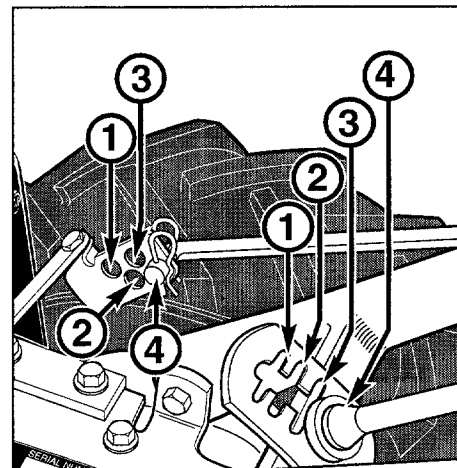

Figure 2-8: Numbered settings for handlebar height slots and clutch swivel plate holes.
3. There are four numbered holes in the clutch swivel plate (see Figure 2-8) and four numbered slots in the curved height adjustment bracket. For correct operation of the Forward Clutch rod, the numbered hole used for the Forward Clutch rod must match with the numbered slot in the height adjustment bracket. For example, if the handlebar is set in slot #1, then the Forward Clutch rod must be installed in hole #1 of the clutch swivel plate.
4. Select the proper hole in the clutch swivel plate and insert the Forward Clutch rod so that the tip faces **inward** (see Figure 2-8). *Secure the rod by inserting a second hairpin cotter through the hole near the tip of the rod.* NOTE: If tip of rod is incorrectly installed so that it faces outward, it will interfere with the height adjustment handle.